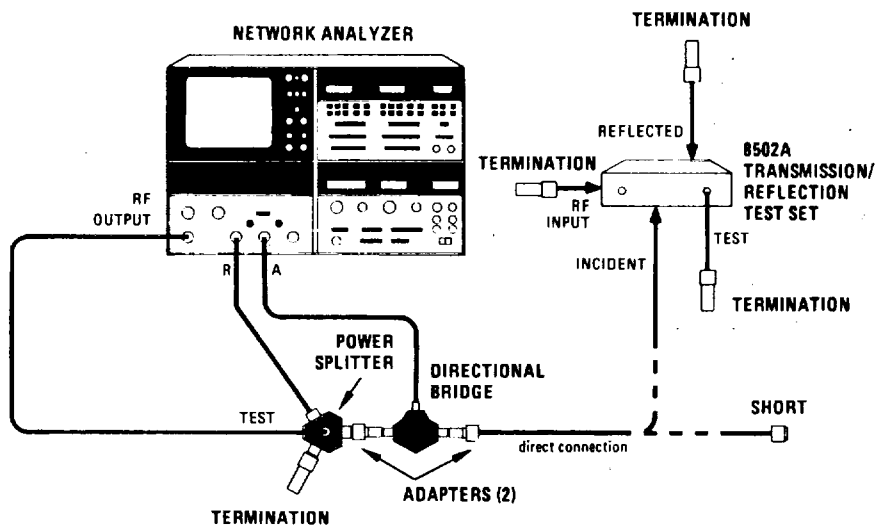

Figure 16. INCIDENT, REFLECTED, and RF INPUT Port Return Loss Test Setups
- c. For INCIDENT port return loss measurements connect equipment as shown in Figure 16, Configuration A with no connection to mainline TEST port of Directional Coupler.
- (2) Read worst-case Return Loss from 8505A Signal Processor Channel 1 digital display. The indications should be >25 dB below the zero dB reference level for the frequency range 100 to 1000 MHz.
- j. To determine the INCIDENT port Return Loss for the frequency range 2 to 1000 MHz connect equipment as shown in Figure 16, Configuration B with LOAD port on Directional Bridge shorted. Set 8505A Frequency Control RANGE MHz switch to .5 — 130. Adjust FREQUENCY MHz START control to 002.0 and FREQUENCY MHz STOP control to 100.0.
- (1) On 8505A CRT display, push REF LINE POSN pushbutton and adjust CH 1 control until trace is positioned to center of screen. Press REF LINE POSN pushbutton again to return system to normal operation.
- (2) Set 8505A Frequency Control MARKERS switch to 1 and adjust MARKER 1 control to center graticule.
- (3) On 8505A Signal Processor Channel I press DISPLAY MKR and ZRO pushbuttons to place MARKER 1 on reference line and to zero digital readout.
- n. For REFLECTED port Return Loss measurements repeat steps a - m, except directly connect the REFLECTED port to the Dual Directional Coupler (Figure 16, Configuration A) or the Directional Bridge (Figure 16, Configuration B) with RF INPUT, INCIDENT, and TEST ports terminated in 50 ohms. The worst-case Return Loss measurements should be:
- o. For RF INPUT port Return Loss measurements repeat steps a - m, except directly connect the RF INPUT port to the Dual Directional Coupler (Figure 16, Configuration A) or the Directional Bridge (Figure 16, Configuration B) with REFLECTED, INCIDENT, and TEST ports terminated in 50 ohms. The worst-case Return Loss measurements should be: